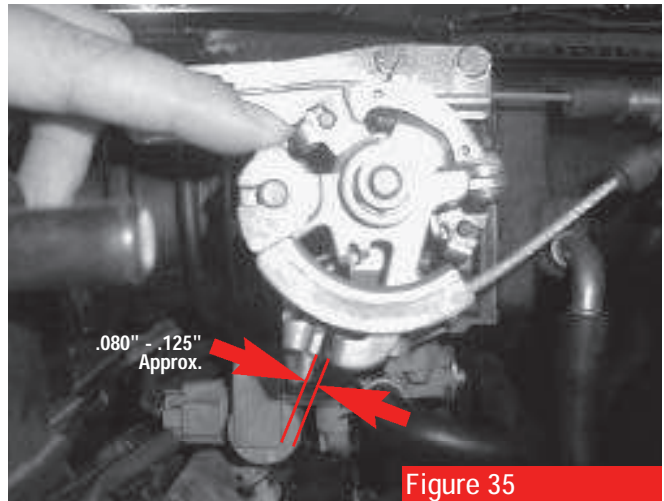
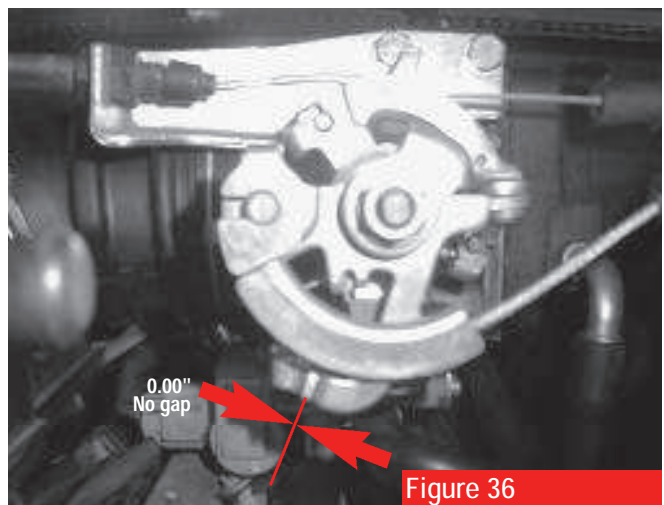

Figure 35
Figure 36
11. Proper throttle cable tension can be accomplished by viewing Figures 35 & 36. With a light but firm pressure you will be able to hear a distinctive "click" when pressing down (**see figure 35**). Release finger pressure and you should hear another "click" as bracket meets bracket (**figure 36**).